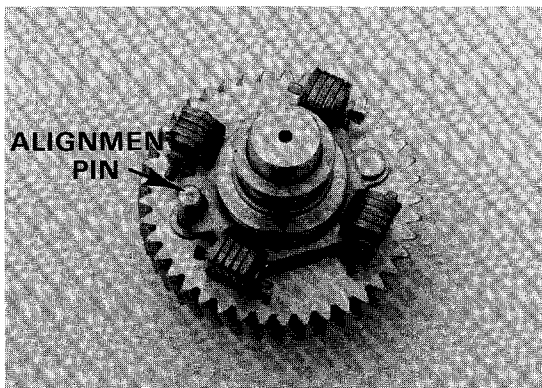

Figure 10-23
- Hold the governor gear (3) with weights hanging down and insert governor sleeve (8) into weights while aligning the notch on sleeve with alignment pin (**Figure 10-23**). Turn gear (3) over holding sleeve (8) in position and slide thrust washer (9) onto governor shaft (4).